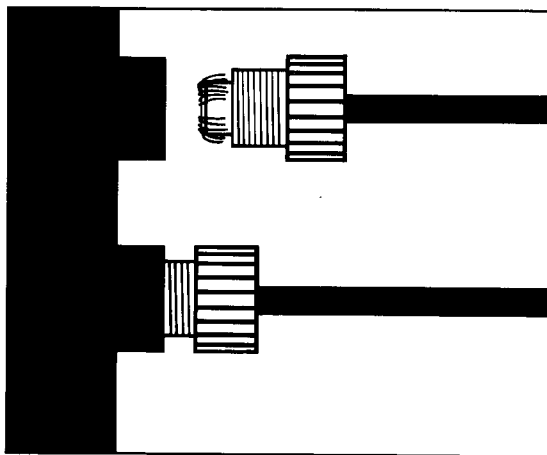

Figure 1: Note bare wire strands spread around back of end post.
4. Now spread the individual wires in each conductor back around the end of the post. (See Figure 1)